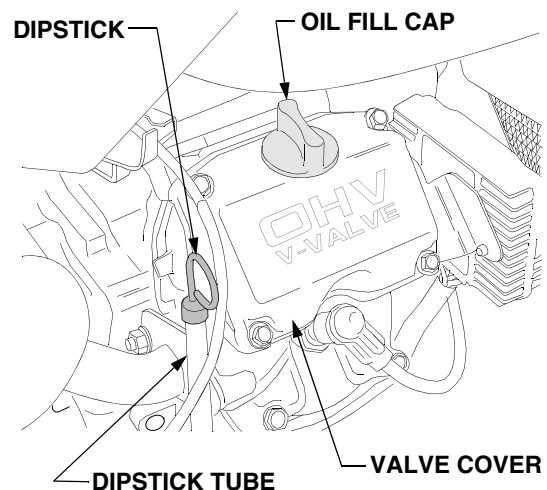

Figure 53
- Check the oil level only while the engine is stopped and the tractor is level. Clean the area around the oil level dipstick to prevent debris from entering the crankcase. See Figure 53.
- To check the oil level, withdraw the dipstick and wipe it clean; then insert the dipstick all the way into the tube before withdrawing it for a true reading. See Figure 53.
- Clean the area around the oil filler cap to prevent debris from entering the crankcase. Refer to Figure 53.
- Remove the dipstick and oil fill cap from the engine. Refer to Figure 53.